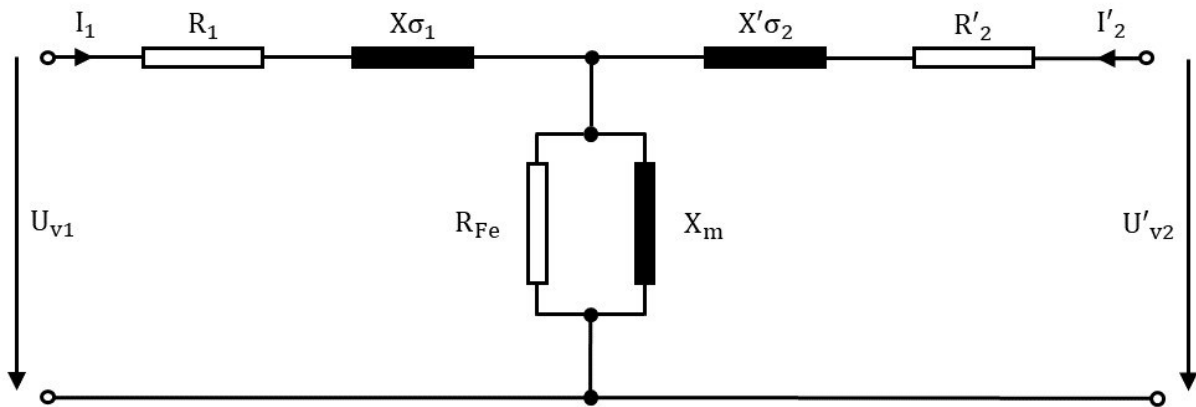

Figure 2: A single phase equivalent circuit model referred to the primary side
1. Calculate the equivalent circuit parameters shown in figure 2 from the results of open-circuit and short circuit simulations.